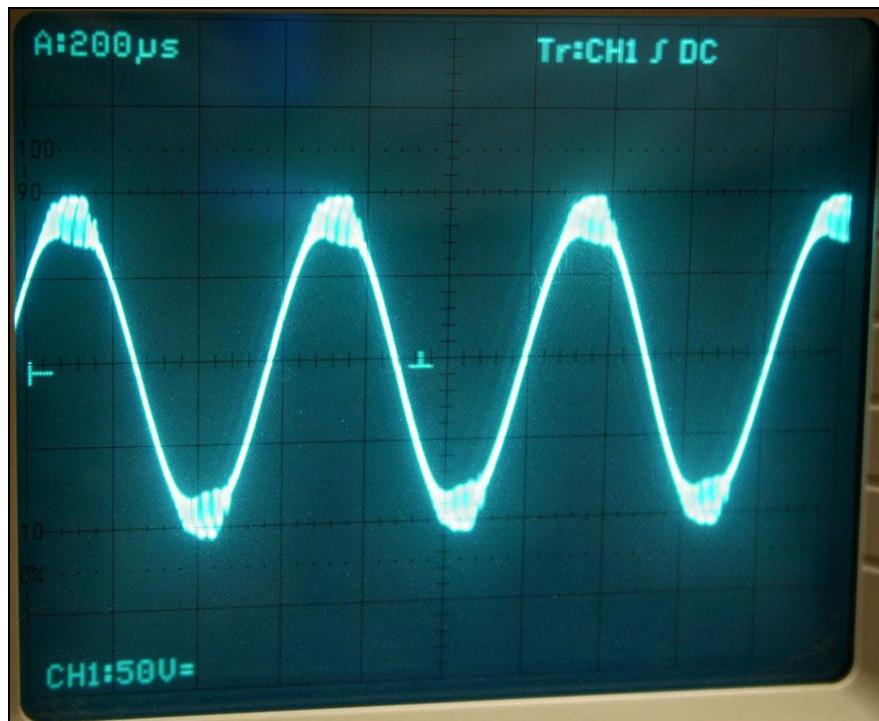

Fig. 18
18.	Check output signal at clip 16Ω (fig. 18). Attention! At 8 ohms load, CPL can appear sometimes.